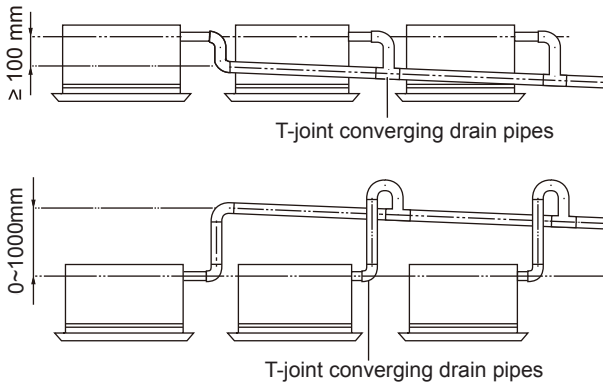

Fig.4.20
- (3). When unifying multiple drain pipes, install the pipes as Fig. 4.20. Select converging drain pipes whose gauge is suitable for the operating capacity of the unit. (take the cassette type unit for example)